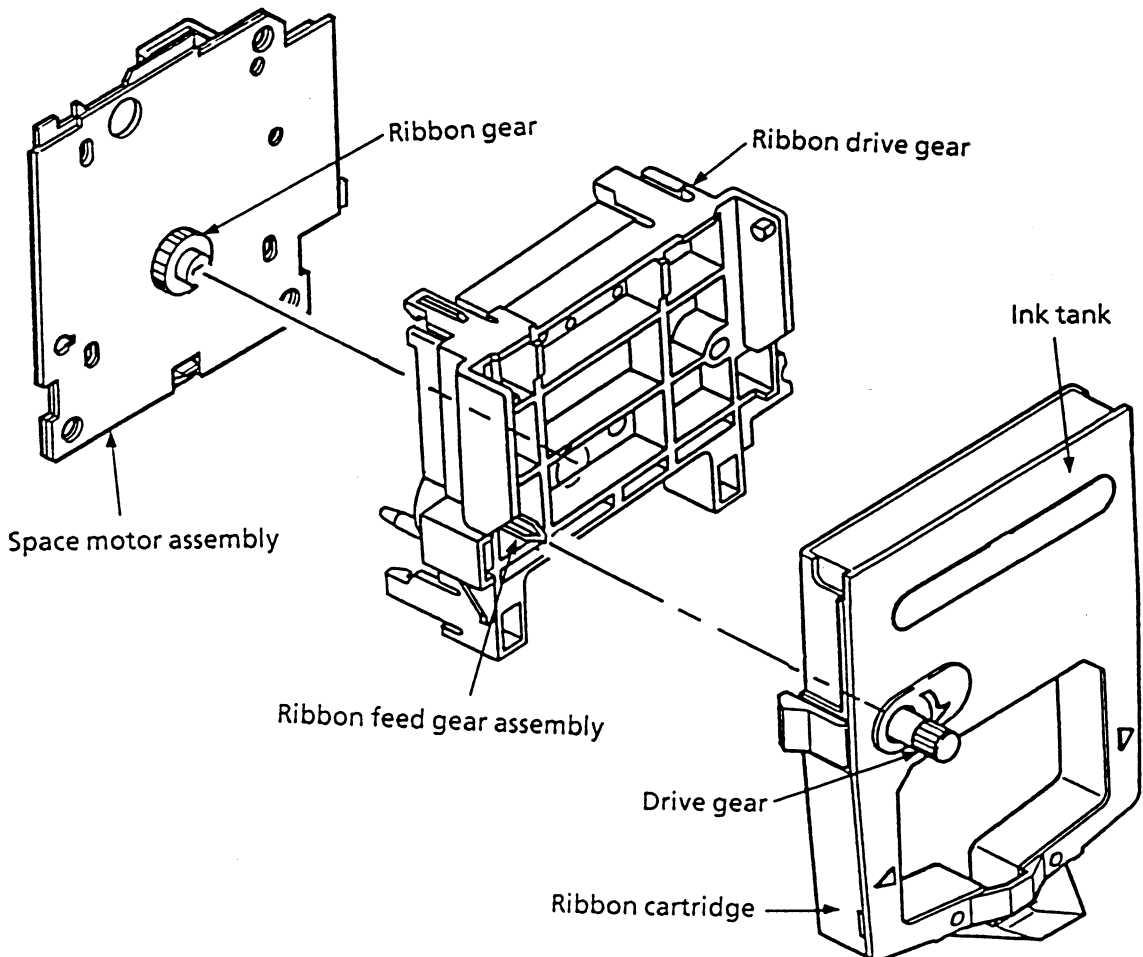

Figure 3-6
3.2.4 Ribbon drive (See Figure 3-6.)